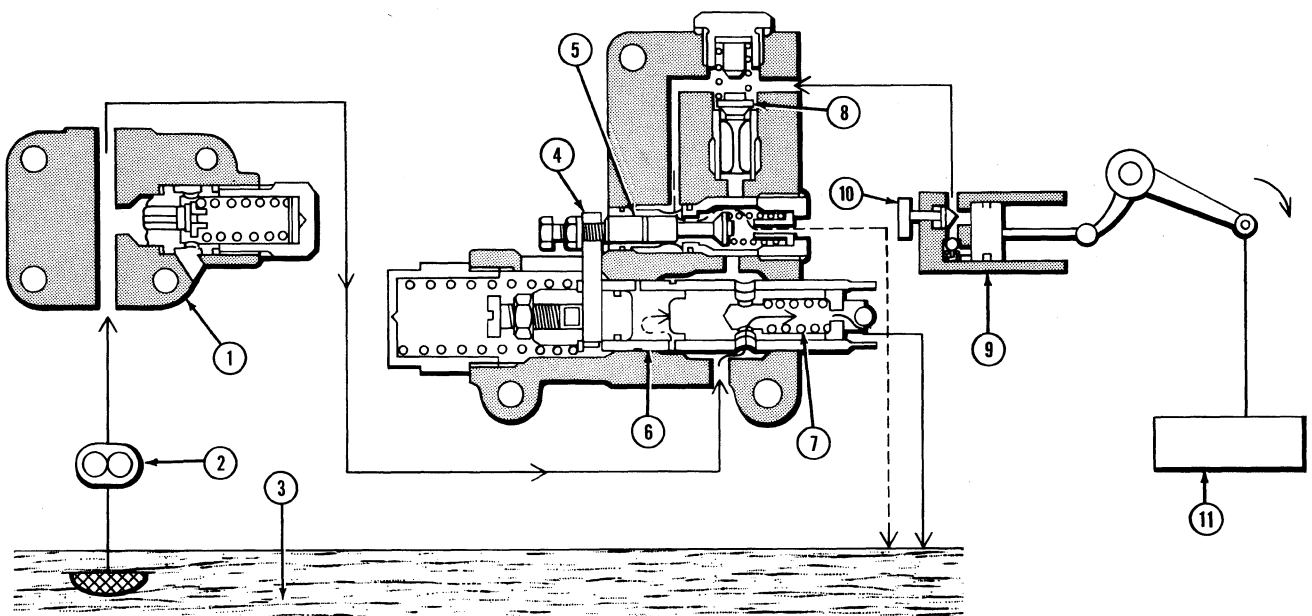

Figure 24
Lowering Position (Figure 24)
When the control lever (4) is shifted to the lowering position, the pilot spool (7) and lowering valve (5) move to the positions shown in Figure 24. Oil flows through the pilot spool (7) and returns to sump. Oil also flows from the implement (11), through the check valve (8), through the now open lowering valve (5), to the transmission sump (3).